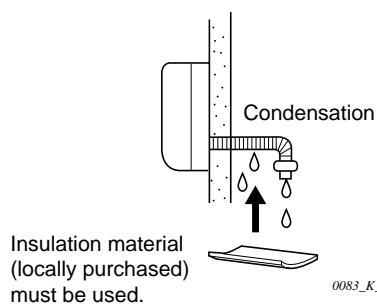

Fig. 3-63
- c) If the drain hose will run in the room, insulate the hose with insulation* so that chilled condensation will not damage furniture or floors. (Fig. 3-63)